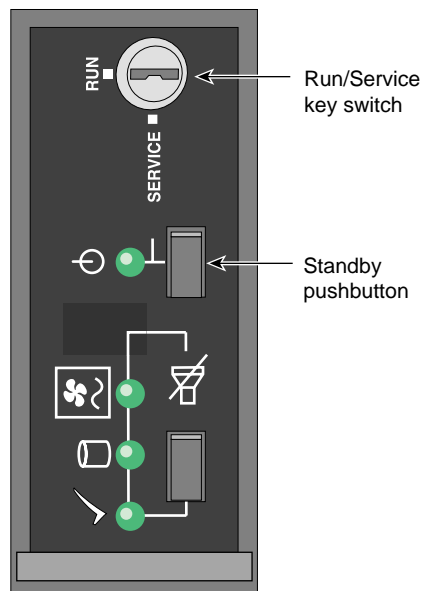

Figure 2-2 ESI/Ops Panel, Tower: Powering On
3. For an unattended installation where the storage system is required to power on whenever AC power is present, the **RUN/SERVICE** key switch should be in the **RUN** position. The storage system ships from the factory with this setting; see Figure 2-2.